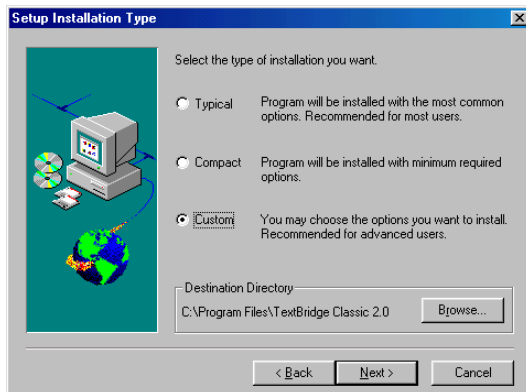

Figure 8: Selecting the type of installation
- Click on 'Yes' to accept the license agreement and continue with the installation. Figure 8 will appear.
- Select 'Custom' (Figure 8), so that a bullet appears in the box.